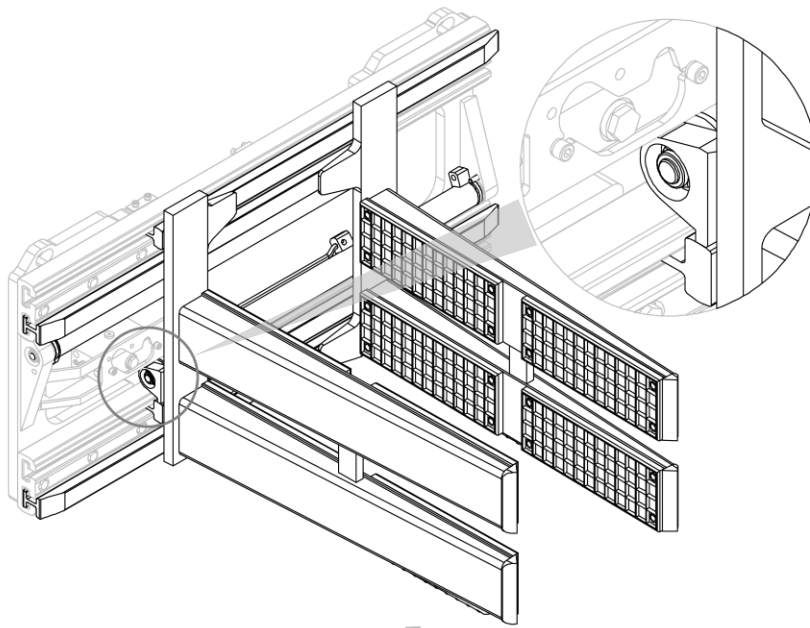
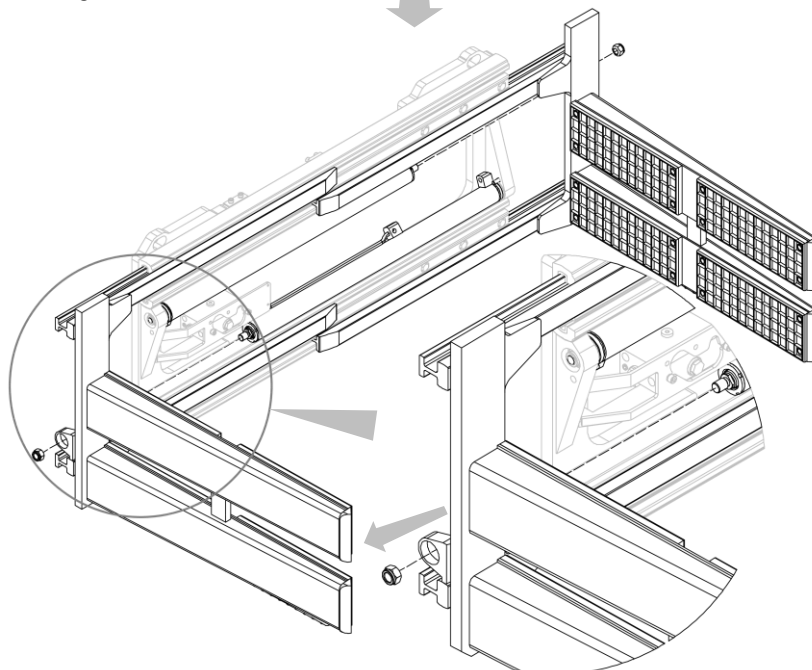

Figure 25
Figure 26
2. Remove the fork assembly with the jaws after unscrewing the nuts securing them to the cylinders (see *Figure 25* and *Figure 26*).